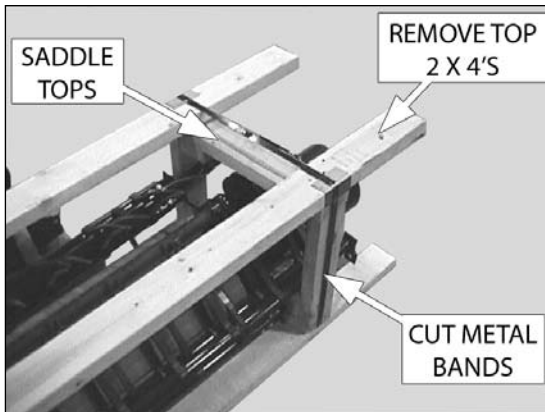

Figure 1, Manifold and bats crate
2. Cut the metal bands and remove the 2" X 4"s and saddle tops (Figure 1).